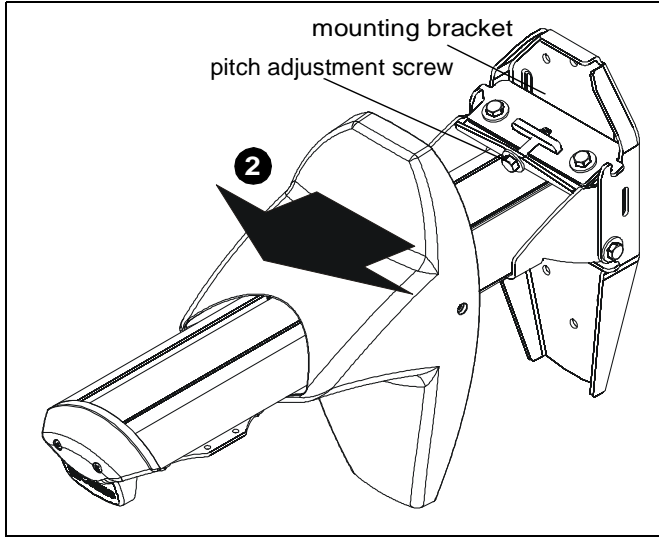

Figure 19
2. Slide outer cover of mount (A) away from mounting bracket to expose pitch adjustment screw. (See Figure 19)